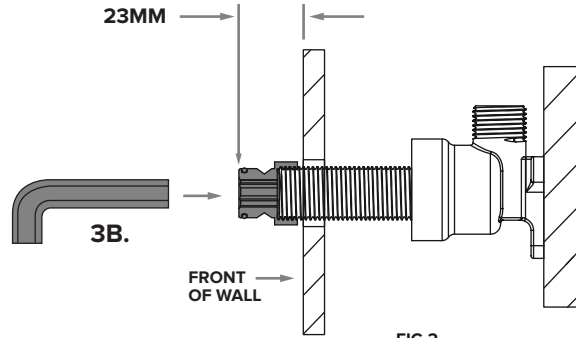

FIG 2.
2. Measure and cut 1/2" BSP thread to the desired length (use fig 2 as reference).
- 3B. Using a 12mm allen key, tighten the adaptor ensuring that the front face of the adaptor is **23mm** from the finished wall lining as shown (fig 2).